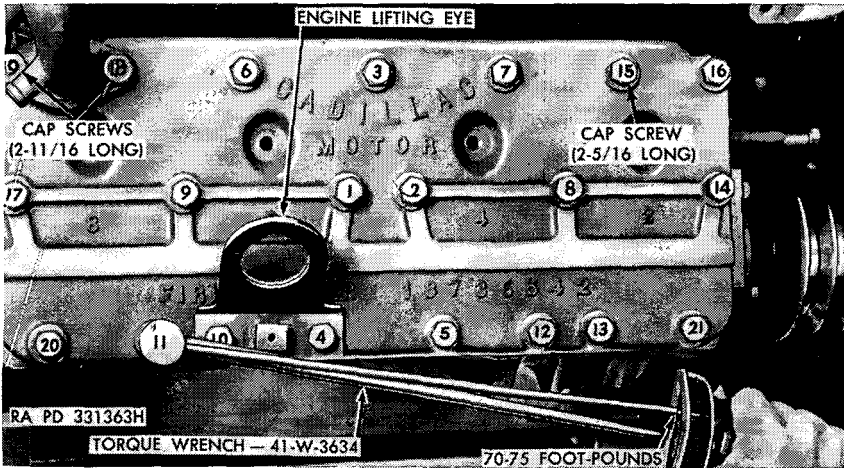

Figure 38. Tightening cylinder head screws.
- (1) *Install cylinder head gasket.* Coat new cylinder head gasket with gasket cement on both sides and position on cylinder block. Be sure surfaces of block and head are clean and free of carbon or other particles.
- (2) *Install cylinder head.* Position cylinder head over gasket, being careful not to damage gasket or valves. Due to the slight clearance between the hull side wall and cylinder head, it is necessary to place the lower row of cylinder head screws and the engine lifting ring on the outside cylinder head before head is lowered into final position. Be sure engine lifting ring support is in proper location on cylinder head (fig. 38). Install (but do not tighten) all screws ($2\frac{5}{16}$ in. long) with the exception of the two longer screws ($2\frac{11}{16}$ in. long) which hold the water outlet elbow and the two which attach the ignition coil mounting bracket to the cylinder head.
- (3) *Install water outlet elbow.* Coat a new water outlet elbow gasket with gasket cement and position on cylinder head. Place outlet elbow over gasket and install the two long screws (fig. 38).
- (4) *Install carburetor air intake intermediate elbow (late model engine).* Position air intake elbow and secure with two screws to engine compartment side wall and with two screws to engine compartment cross support. Secure ground strap to engine compartment side wall. Slide air intake hose over air intake elbow and tighten hose clamp. Install and tighten hose clamp on air intake hose at carburetor. Connect distributor ventilating line and choke heater line to air intake pipe at carburetor.
- (6) *Install engine signal sending unit conduit (left-hand cylinder head).* Position engine signal sending unit conduit on cylinder head and install two attaching screws and washers. Tighten all cylinder head screws to 70-75 foot-pounds torque.
- Caution:** Cylinder head screws must be tightened evenly and in the order shown in figure 38.
- (7) *Install spark plugs and suppressors.* Install spark plug gasket on spark plugs. Install spark plugs and gaskets and